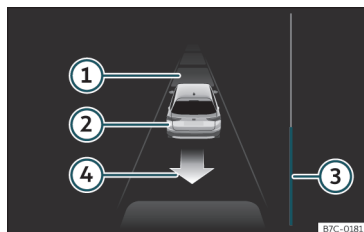

Fig. 231 On the instrument panel display: driving off from perpendicular parking.
Key to the **Fig. 231**:
The progress bar >>> Fig. 231 ③ indicates the distance to cover >>> page 278.